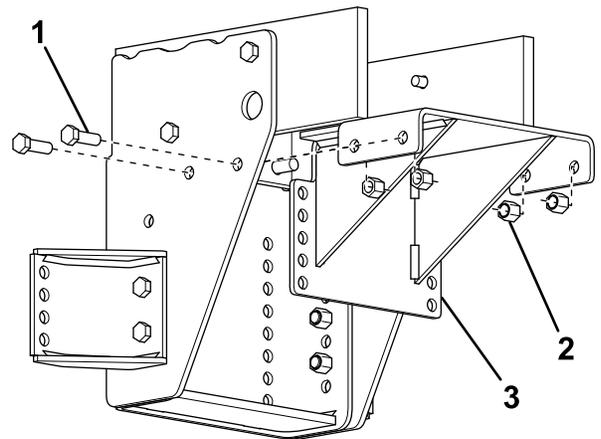

**Figure 4**
- Secure a side gusset to the left sideplate using 2 bolts (1/2 x 1-1/2 inches) and nuts (Figure 4).
- Secure the remaining side gusset to the right sideplate using 2 bolts (1/2 x 1-1/2 inches) and nuts (Figure 4).